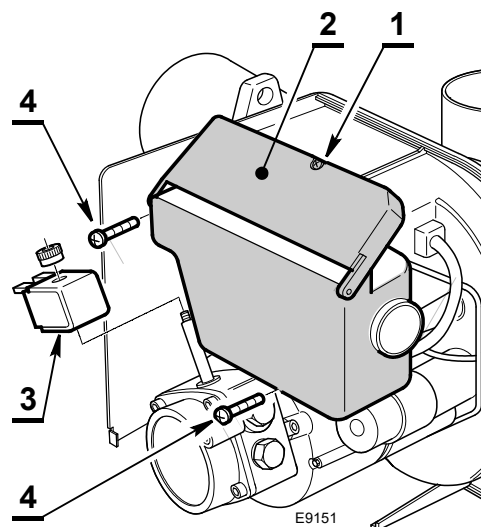

Fig. 14
- unscrew the screw 1)(Fig. 14) and open the protection 2).